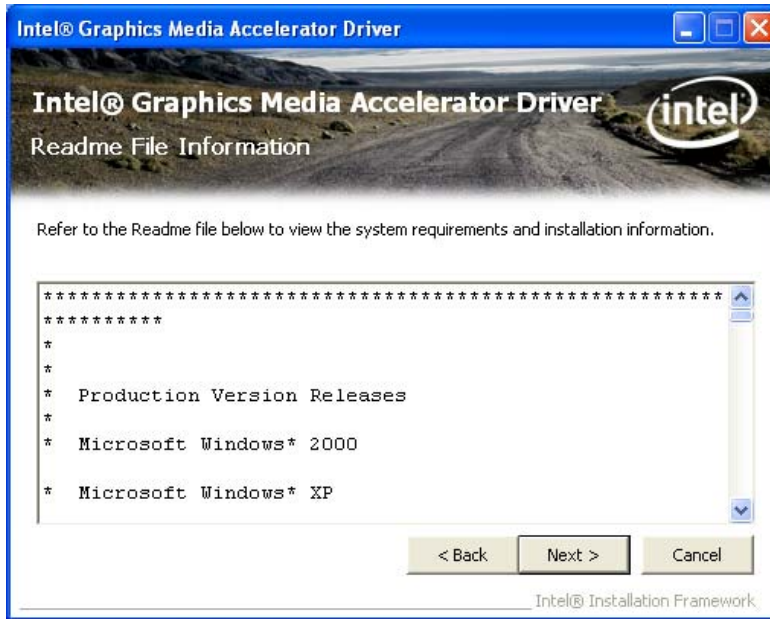

Figure 6-11: Graphics Driver Read Me File
Step 12: The Read Me file in Figure 6-11 appears.